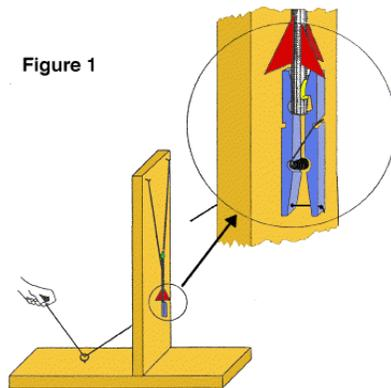

Figure 1
2. Screw in the cup hooks and screw eye into the wood in the places indicated in figure 1.
5. Tie a knot in one end of the string and feed it through the clothes pin as shown in figure 1, through the upright piece of the platform and then through the screw eye. When the free end of the string is pulled, the clothes pin will pen. The clothes pin has become a rocket hold-down and release device.